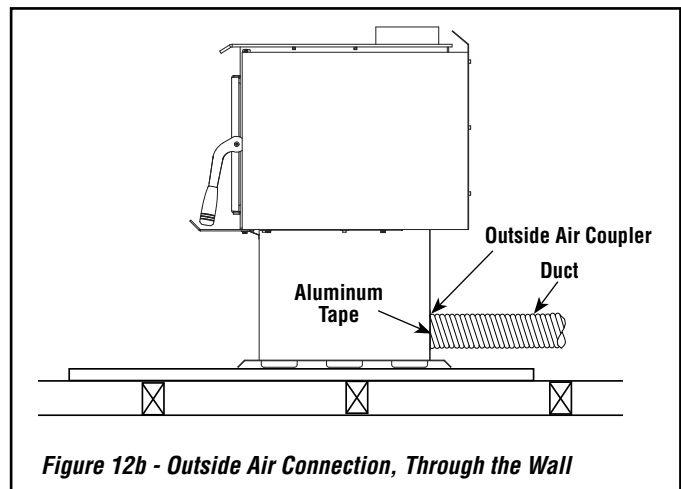

Figure 12b - Outside Air Connection, Through the Wall
- Make a 4-1/4" hole in the outside wall of the house at the chosen location. From outside, place the outside air register in the hole (open side down) and fasten the register to the wall, with screws as shown (*see Figures 12b and 13*).